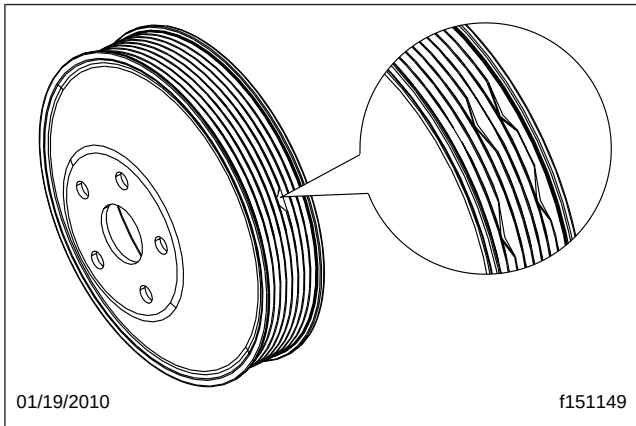

Fig. 2, Damaged Pulley
4. Inspect the pulleys for damage. If the pulleys are damaged, change both the damaged pulley and the belt. See Fig. 2.